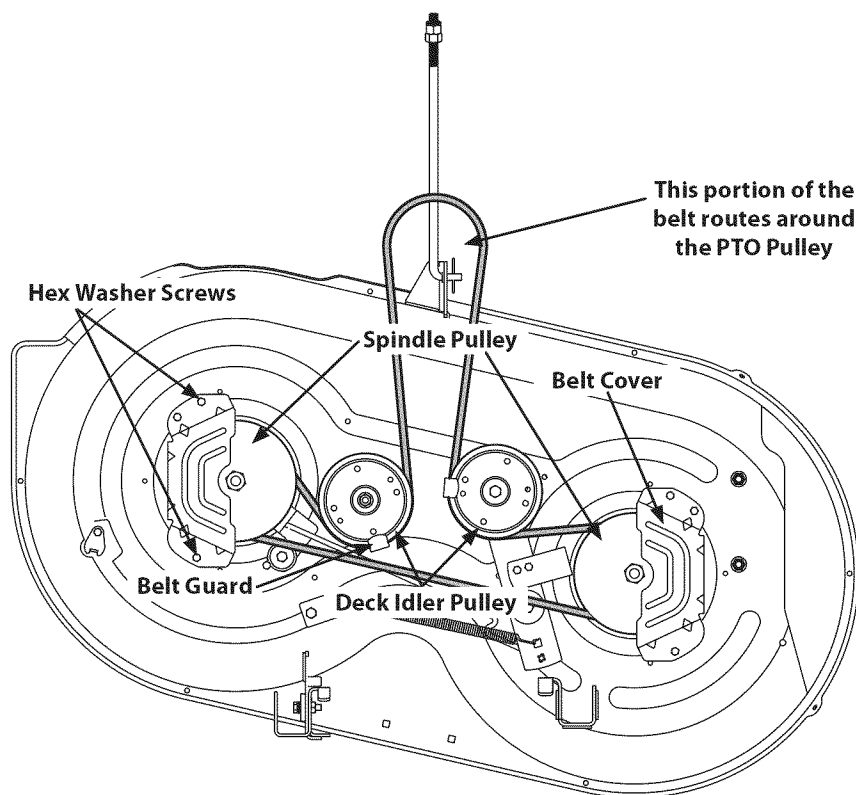

Figure 22
2. Remove the belt covers from the spindle pulleys by removing the hex screws that fasten the covers to the deck. See Fig. 22.
4. Carefully remove the deck belt from around the two spindle pulleys and the two deck idler pulleys. See Fig. 22.
5. To place the new belt, begin by routing the belt around the two outer spindle pulleys as shown in Fig. 22.
6. Then route the belt around the two deck idler pulleys as shown in Fig. 22.
9. Re-install the deck, making sure the belt remains routed around the pulleys as instructed. The complete belt routing is shown in Fig. 22.